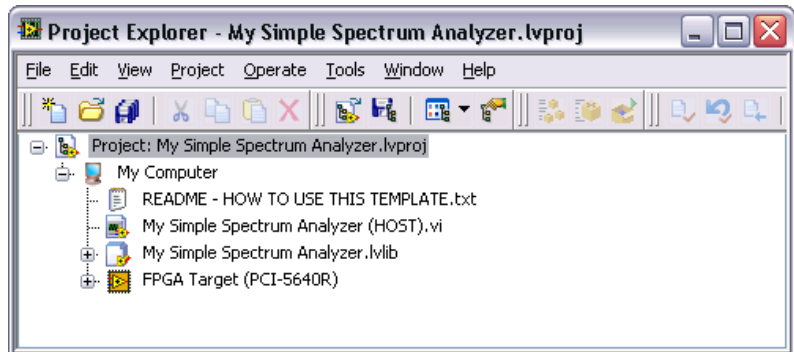

Figure 11. My Simple Spectrum Analyzer Project
12. At the LabVIEW **File** dialog box, select **Save All**. Your LabVIEW project should now look like Figure 11.